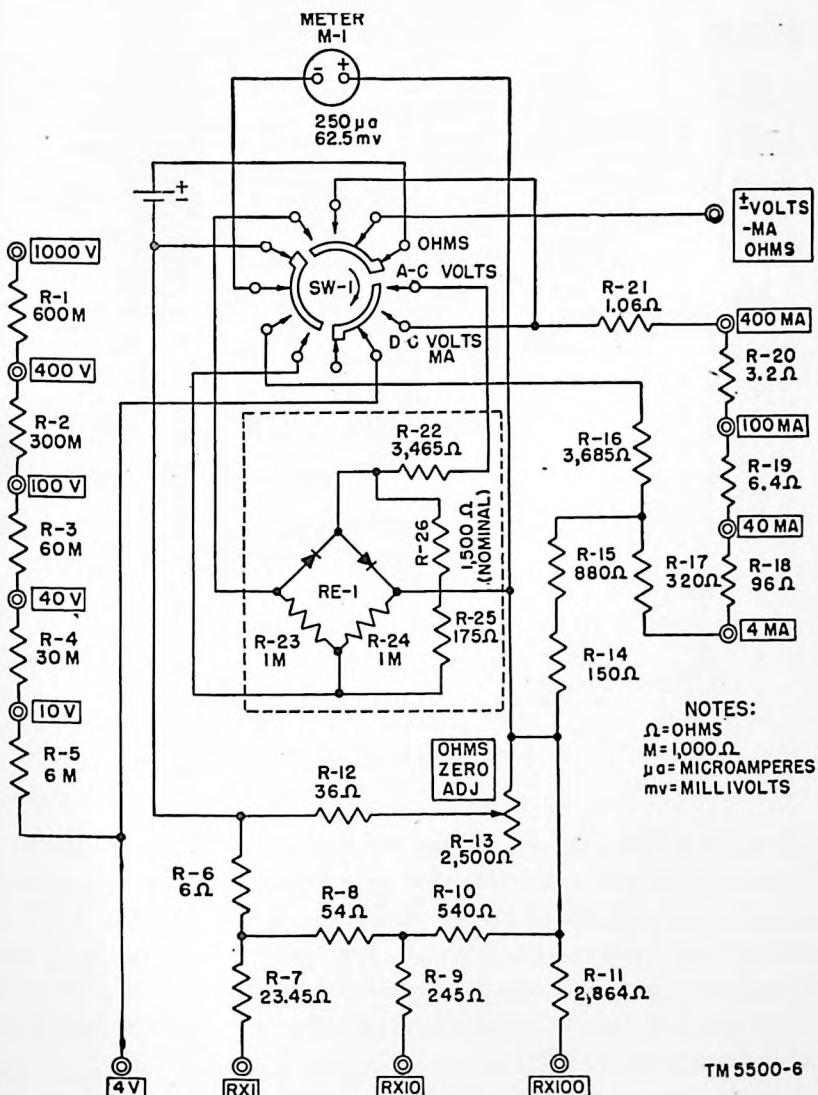

Figure 6. Multimeter TS-297/U, schematic diagram.
## 29. General Theory (fig. 6)
(1) Complete schematic diagram (fig. 6).